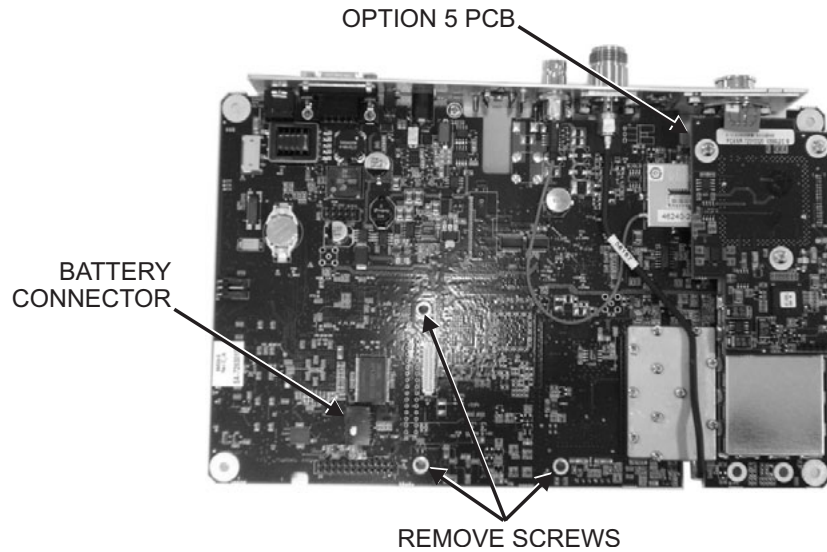

Figure 10. Main PCB
1. Remove the three screws indicated from the main PCB and disconnect the battery cable (Figure 10).